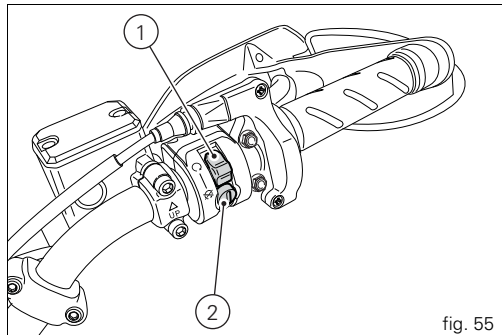

fig. 55
- 2) Check that the stop switch (1, fig. 55) is positioned to  (RUN), then press the starter button (2).